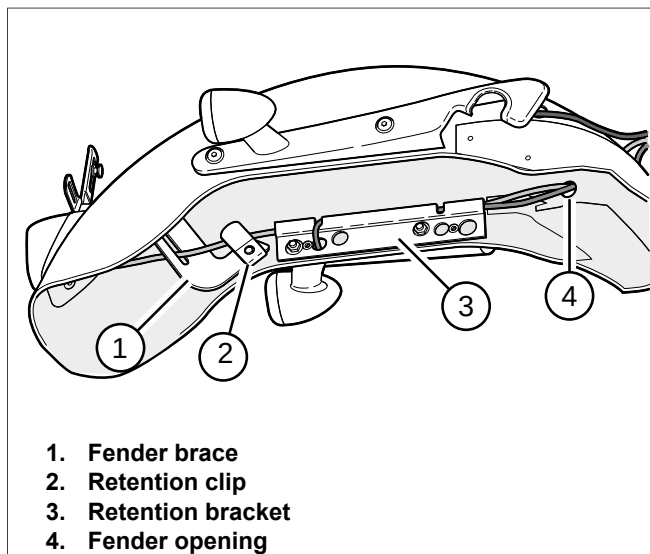

Figure 2-202. Inner Rear Fender: XL 1200C/C ANV/CP
5. See Figure 2-202. Route the turn signal wire harness through the openings (4) in the fender and from the retention bracket (3).